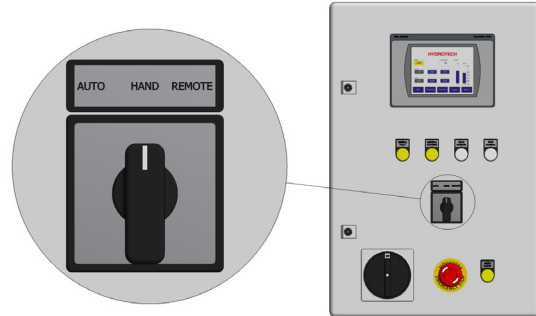
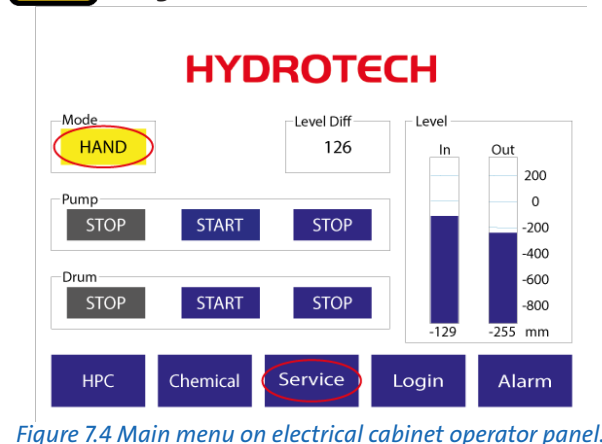

Figure 7.3 Mode selector.
Figure 7.4 Main menu on electrical cabinet operator panel.
1. In order to operate the filter cover, the mode selector shown in Figure 7.3 must be in the “HAND” position. When in HAND mode, “HAND” is shown in the operator panel main menu, see Figure 7.4 below.